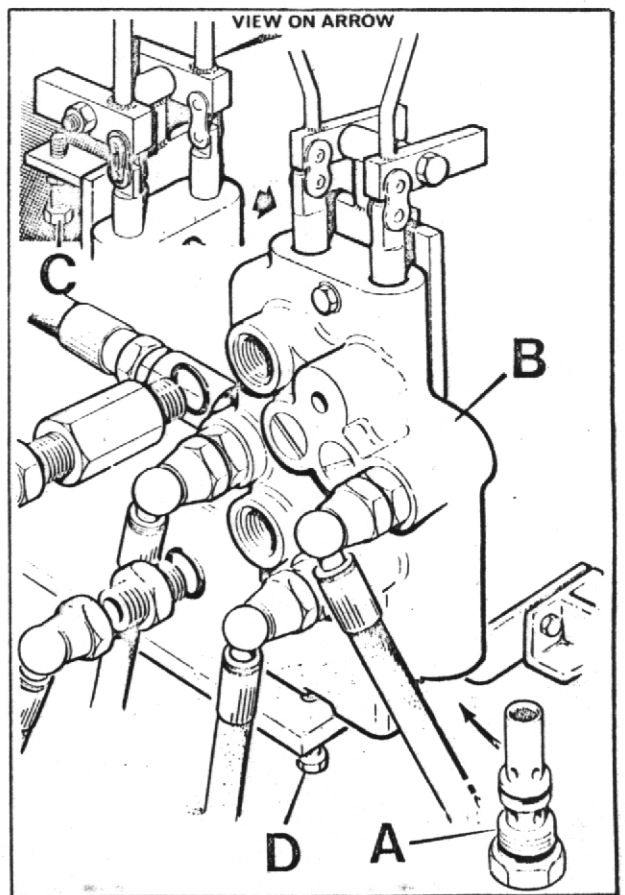

FIG. 9
2. The control lever travel (and therefore tilt speed) is preset at the factory by adjustment of the setting screws (C) and (D) shown in Fig.9. These settings must NOT be altered.
4. Remove relief valve cartridge (A) (hexagon head) from the bottom of the control valve (B) (See Fig.9) and replace with a new one.
5. Remove hose adaptor (C) from control valve (See Fig.9), remove hexagonal orifice plate (D) and wash in white spirit. Dry using moisture-free compressed air. DO NOT poke wire etc., into the orifice. Re-fit plate and hose adaptor with slot of orifice plate facing outwards.